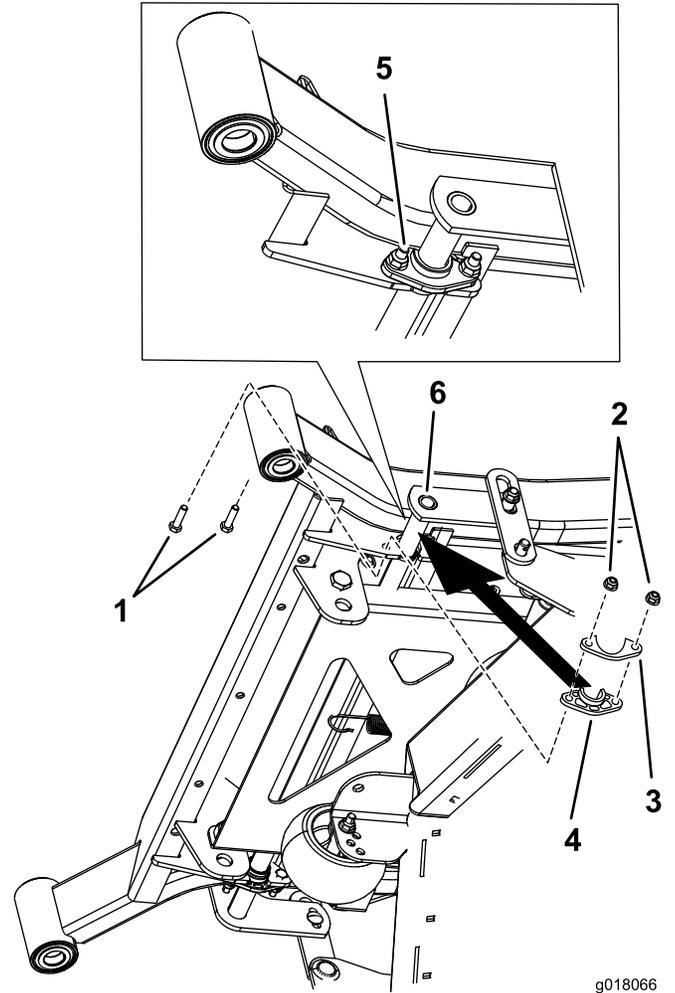

Figure 3
6. Secure the flange bushings and metal gussets to the frame with the previously removed nuts and bolts (Figure 3).
1. Remove the two nuts and bolts at each existing flange bushing (Figure 3).